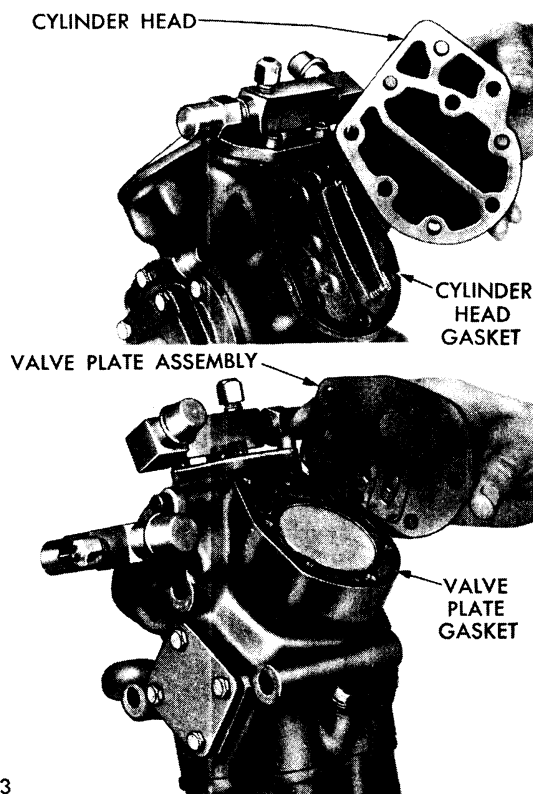

Fig. 24 — Replacing Head Gasket
**NOTE:** Both head and valve plate gasket can only be assembled in one position. See Figure 24 for method of correct assembly.